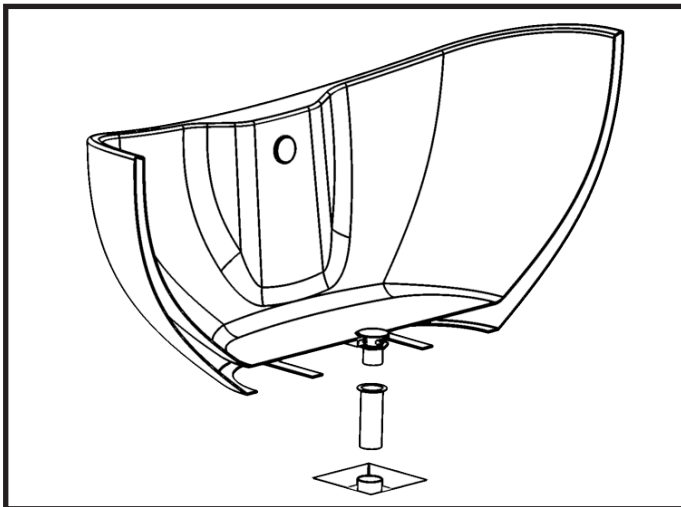

FIGURE 5
21. Using caution, remove the 2x4 supports and lower the bathtub so the drain drops into the P-trap adapter. See Figure 5.